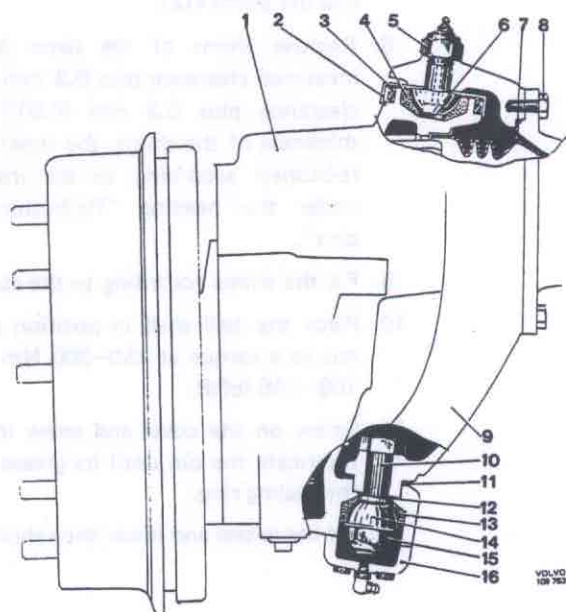

Fig. 63-1. Steering pins
The ends of the front axle are provided with spherical steering knuckle supports (9, Fig. 63-1) on which the wheel carriers (1) are suspended in steering pins (6 and 14). The steering pins have ball shells (6 and 14) which are journaled in bushings (4 and 13) of synthetic material. The steering pins should be lubricated with grease of a quality specified according to the lubricating instructions. When being installed, the lower steering pin should be fitted with shims (12) so that there is pre-loading on the steering pins.
3. Remove the lubricator on the cover (16, Fig. 63-1).
3. Remove the cover (16, Fig. 63-1) under lower steering pin and unscrew the nut (15) holding the pin together. Pull out the bolt (10) and then the ball shell (14), also the shims (12). Take care of the shims.
1. Clean all parts thoroughly. Clean thoroughly the surfaces between the cover (16) and wheel carrier, and between the steering knuckle support and front axle.
2. Check the ball shells (6 and 14, Fig. 63-1) and the surface on the sealing washer (2) for the sealing ring. Replace worn parts.